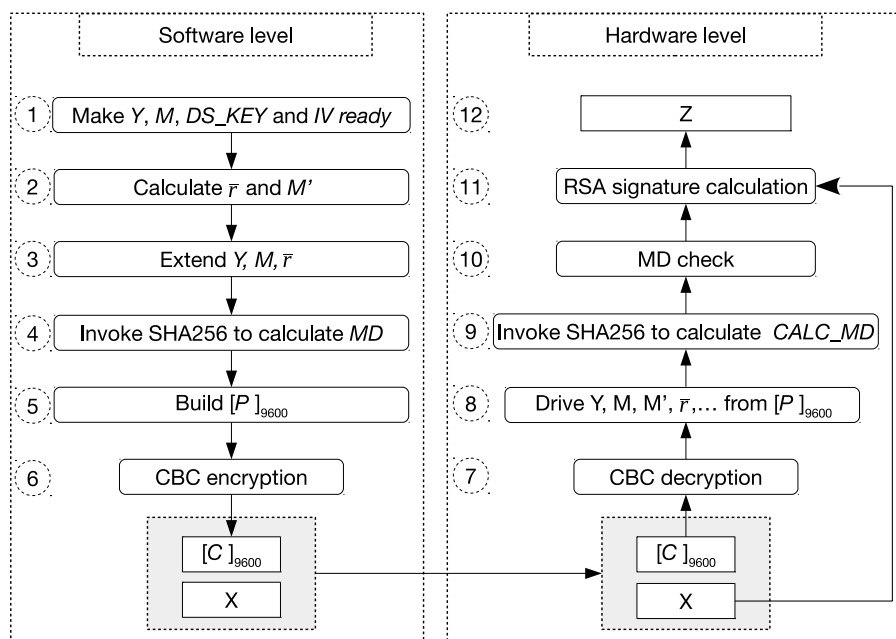

Figure 23-1. Software Preparations and Hardware Working Process
If users want to use the DS module, the software needs to do a series of preparations, as shown in Figure 23-1. The left side lists preparations required by the software before the hardware starts RSA signature calculation, while the right side lists the hardware workflow during the entire calculation procedure.
1. The software preparation (left side in the Figure 23-1) is a one-time operation before any signature is calculated, while the hardware calculation (right side in the Figure 23-1) repeats for every signature calculation.
Users need to follow the steps shown in the left part of Figure 23-1 to calculate C . Detailed instructions are as follows:
1. Decryption: Step 7 and 8 in Figure 23-1
The decryption process is the inverse of Step 6 in figure 23-1. The DS module will call the AES accelerator to decrypt C in CBC block mode and get the resulting plaintext. The decryption process can be represented by $P = \text{AES-CBC-DEC}(C, DS_KEY, IV)$, where IV (i.e., $[IV]_{128}$) is defined by the user. $[DS_KEY]_{256}$ is provided by the HMAC module, derived from $HMAC_KEY$ stored in eFuse. $[DS_KEY]_{256}$, as well as $[HMAC_KEY]_{256}$ are not readable by users.
2. Check: Step 9 and 10 in Figure 23-1
The DS module will perform two checks: MD check and padding check. Padding check is not shown in Figure 23-1, as it happens at the same time as MD check.
3. Calculation: Step 11 and 12 in Figure 23-1